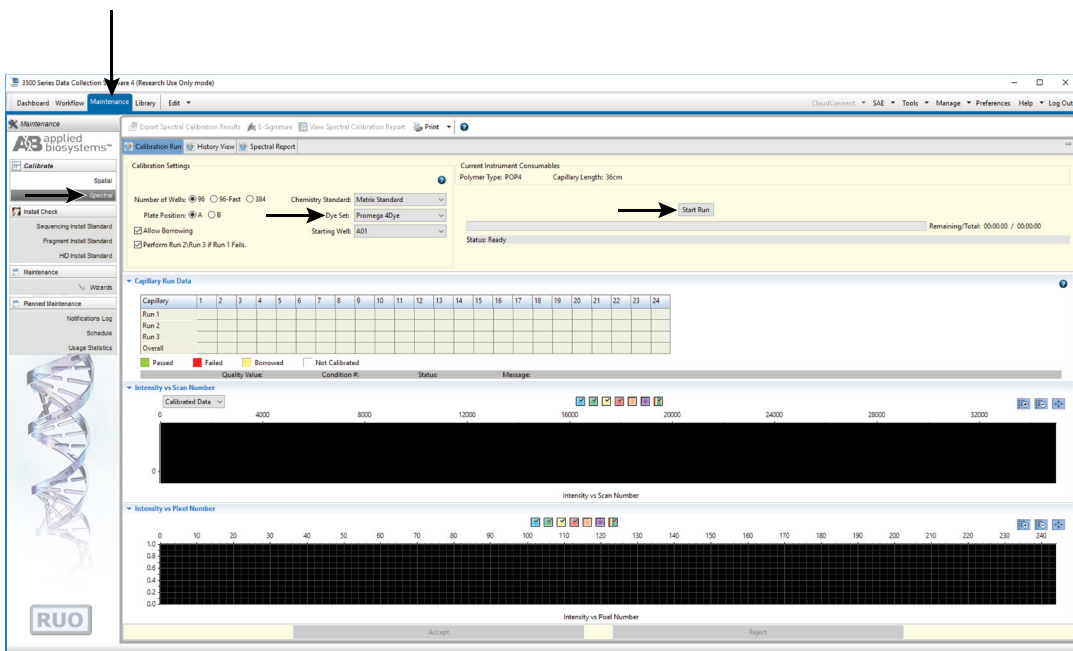

Figure 3. Calibration Run.
- c. To perform the spectral calibration, go to the 'Maintenance' tab, select **Spectral**, and under the 'Calibration Run' tab, choose the appropriate fields: Choose **Matrix Standard** from the Chemistry Standard drop-down menu and the new Promega 4C dye set (e.g., Promega F) created in Step 2.b from the 'Dye Set' drop-down menu (Figure 3).